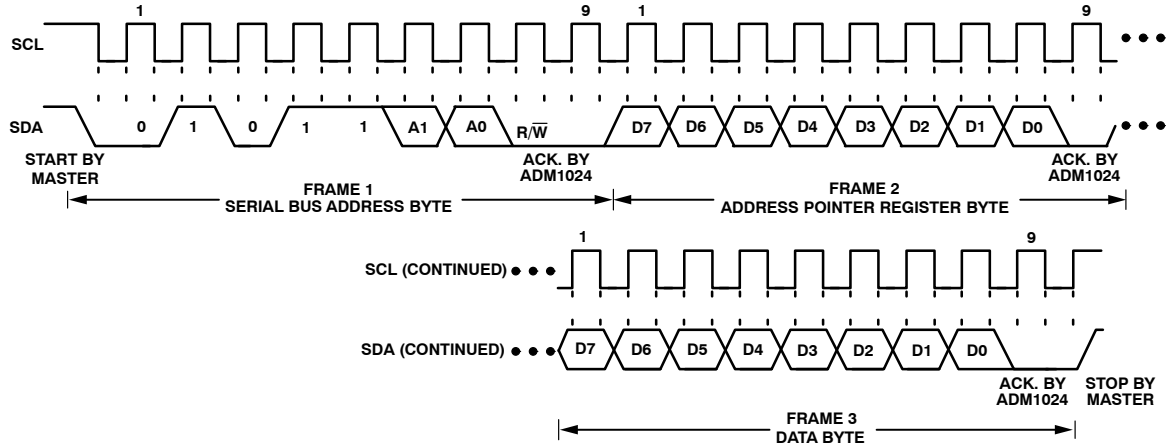
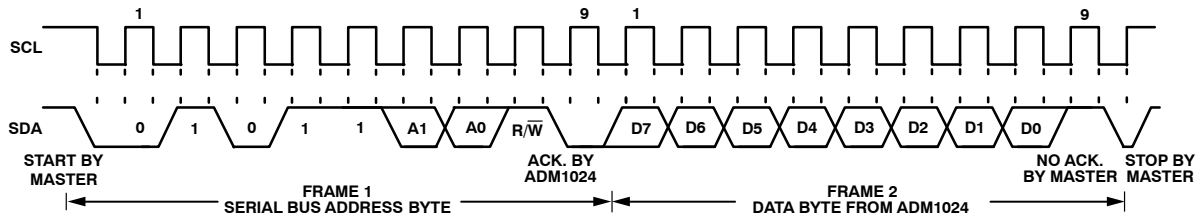

Figure 10. Writing a Register Address to the Address Pointer Register, then Writing Data to the Selected Register
Figure 12. Reading Data from a Previously Selected Register
To write data to one of the device data registers or read data from it, the Address Pointer Register must be set so that the correct data register is addressed, then data can be written into that register or read from it. The first byte of a write operation always contains an address that is stored in the Address Pointer Register. If data is to be written to the device, the write operation contains a second data byte that is written to the register selected by the Address Pointer Register. This is illustrated in Figure 10 The device address is sent over the bus followed by R/ \overline{W} set to 0. This is followed by two data bytes. The first data byte is the address of the internal data register to be written to, which is stored in the Address Pointer Register. The second data byte is the data to be written to the internal data register.
A read operation is then performed consisting of the serial bus address, R/W bit set to 1, followed by the data byte read from the data register. This is shown in Figure 12.
2. In Figure 10 to Figure 12, the serial bus address is shown as the default value 01011(A1)(A0), where A1 and A0 are set by the three-state ADD pin.